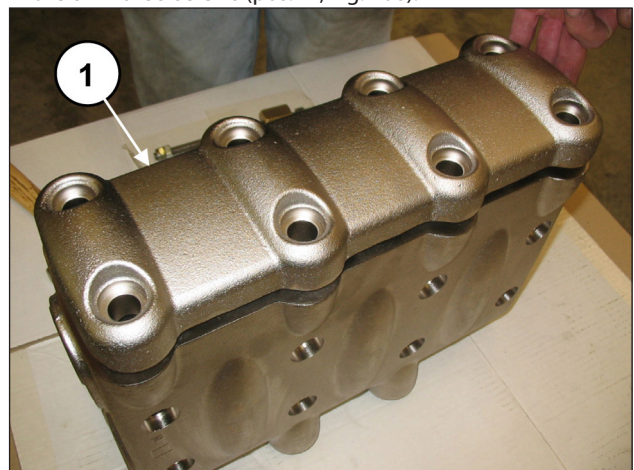
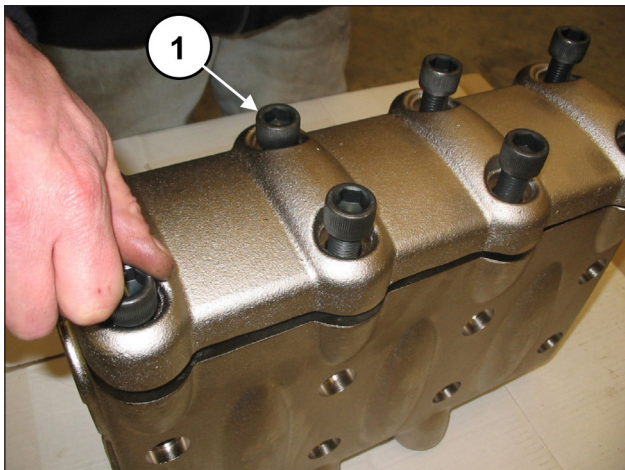

Fig. 105
Fig. 106
After having completed assembly of the valve units and the valve plug, apply the valve cover (pos. ①, Fig. 105) and screw in the 8 M16x55 screws (pos. ①, Fig. 106).